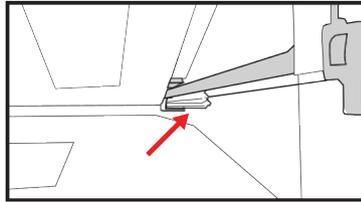

Figure 2
- Using care to not scratch the inside of the refrigerator, place the gaps located at the bottom rear corners of the drawer onto the small extension pieces located at the rear corners of both rails (see *Figure 2*, red arrow).